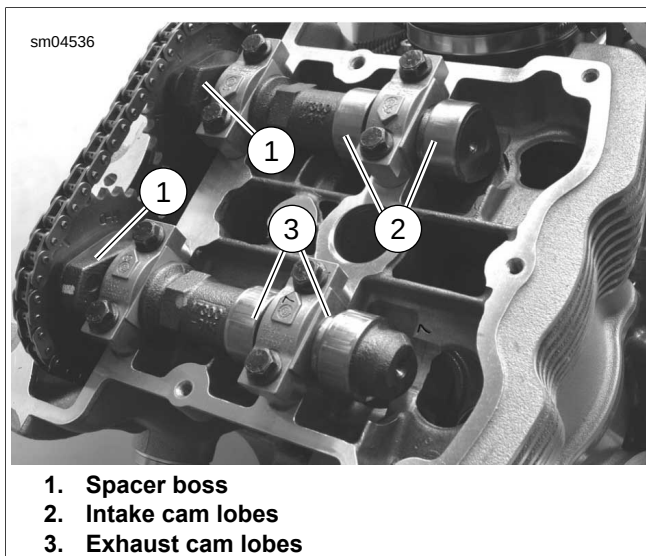

Figure 3-23. Rear Cylinder Cams
- See Figure 3-23. The rear cylinder cams are identified by the spacer boss location on the inside of the cam sprockets.